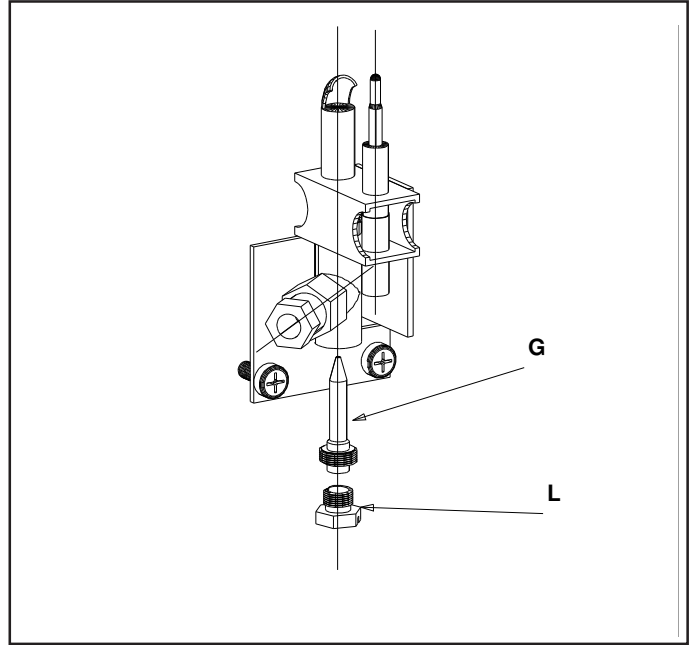

FIG. 4
4.3 ADJUSTMENT OF THE PILOT BURNER (Fig.4)